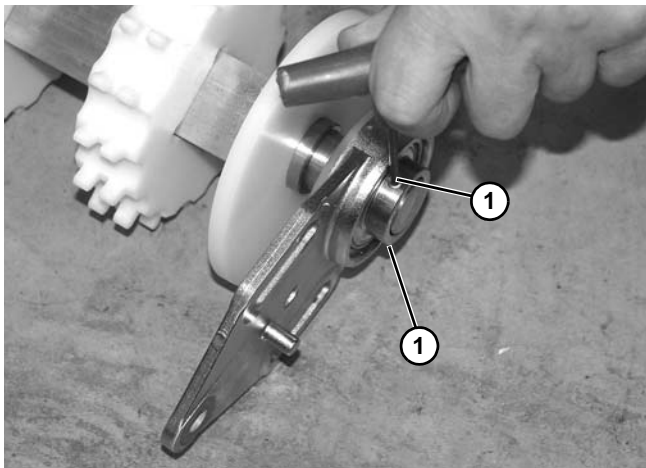

Figure 60
6. Loosen two set screws (Figure 60, item 1).